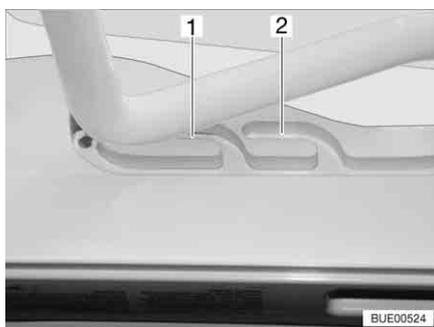
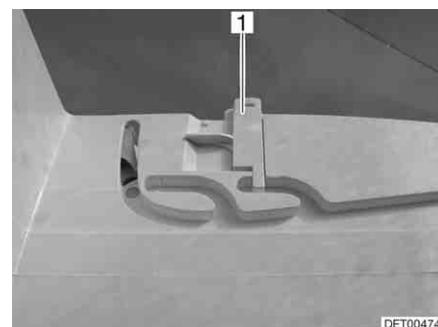

Fig. 65 Heki skylight in ventilation position
Fig. 66 Ventilation position locking mechanism
The Heki skylight can be put in two ventilation positions: Bad weather position (Fig. 65,1) and central position (Fig. 65,2). Depending on the model, the skylight can be locked in the central position with both left and right latches (Fig. 66,1) on the skylight frame.
- Push the bar slightly upwards and into the selected guide (Fig. 65,1 or 2) and lock if necessary.